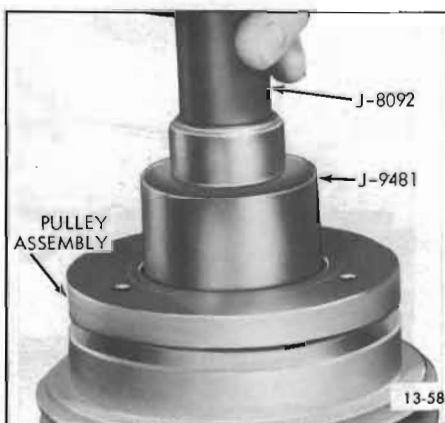

Figure 13-58—Installing Pulley Assembly
4. Drive pulley assembly onto hub of front head (see Figure 13-58) using Installer (J-9481) and Handle (J-8092).